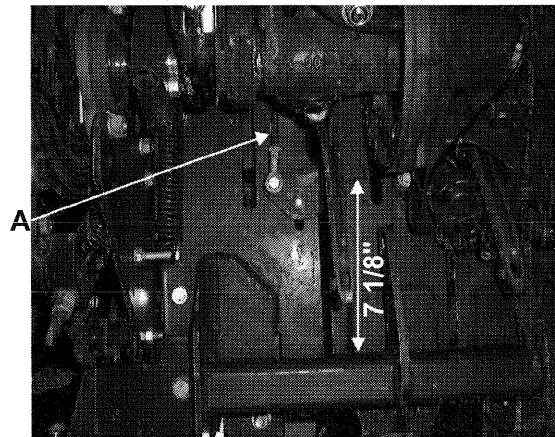

Fig.21
B. Continue to turn the flywheel clockwise until the twine fingers reach the far point of their travel. Measure from the tip of the twine finger to the front edge of the tubular cross member. This adjustment is made by lengthening or shortening the twine finger drive rods "A," *Fig.21*.